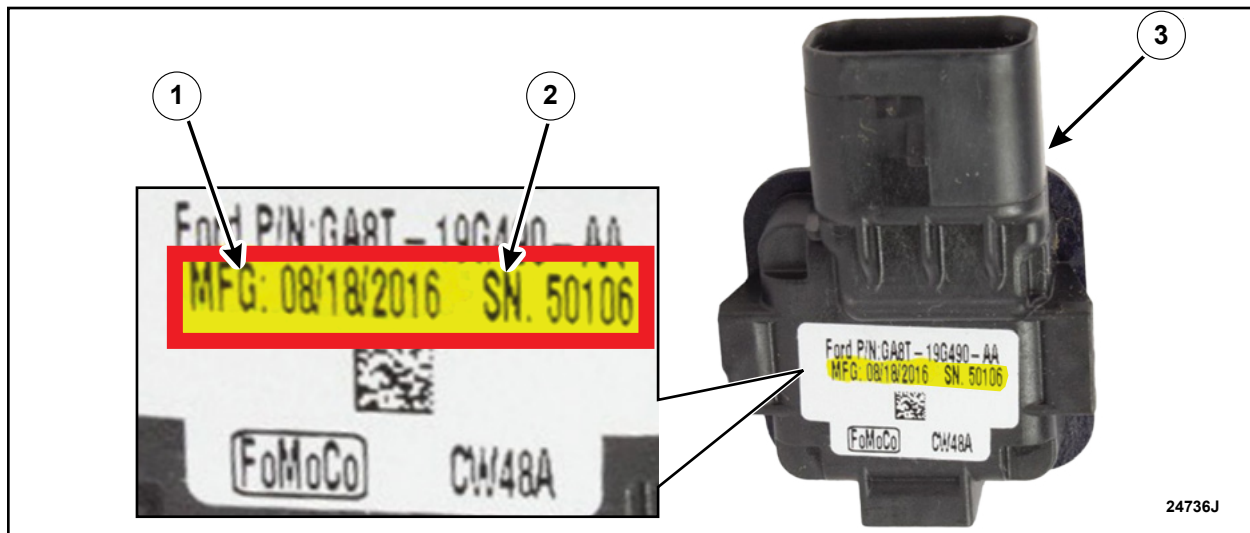

FIGURE 2
2. Write down and include the *new* camera manufacture date and serial number onto the repair order. The *new* camera manufacture date serial number should also be included in the warranty claim submission in the technician comments section. See Figure 2.